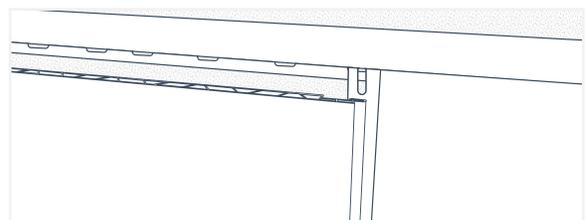
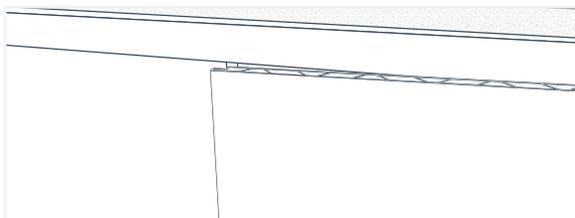

Fig. 46
Fig. 47
9. Insert the tongue end of the replacement panel in first, using a putty knife to pry open any adjacent trims if needed (Fig.46). Then, simply place the groove end of the replacement panel on top of the tongue (with the bead of silicone) of the adjacent panel (Fig. 47).